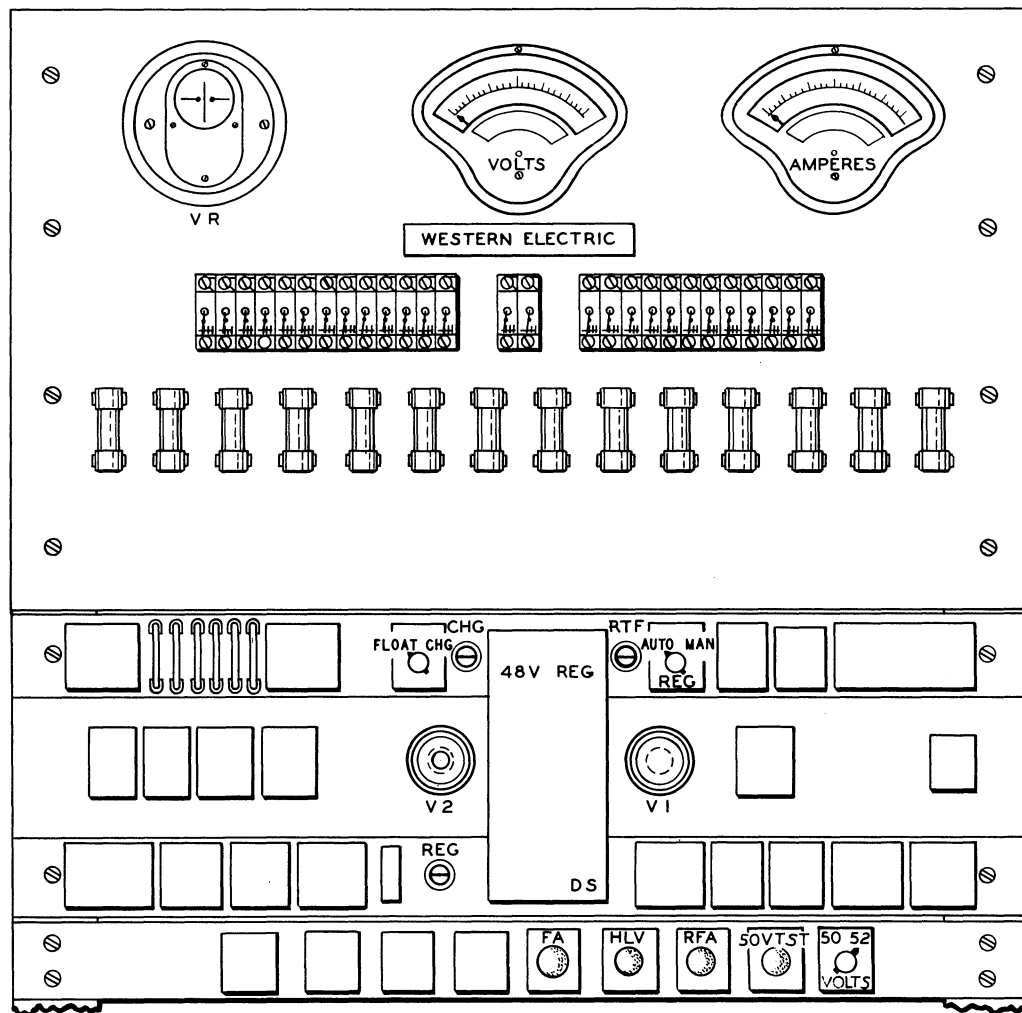
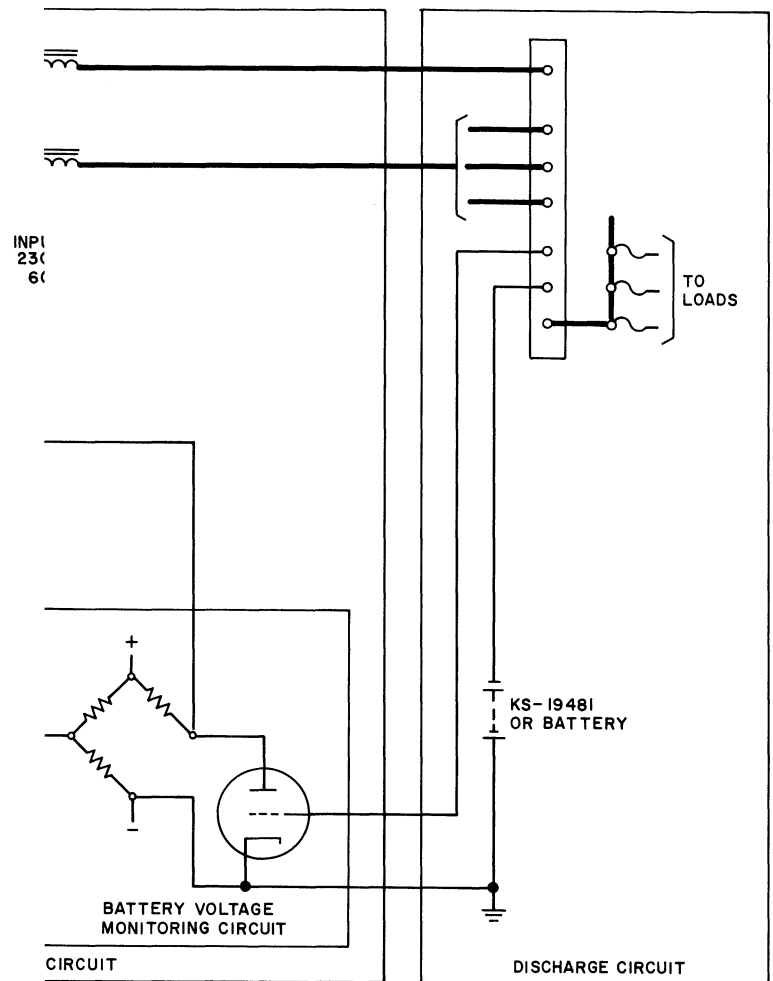

Fig. 2—110A 48-Volt Plant Controls
Fig. 6—Block Schematic of 24-Volt 110B Power Plant
1.06 Keys are provided as a part of the rectifier for manual control of the output. A voltage control unit, consisting of an amplifier and a bridge, is used for automatic control of the rectifier output to maintain the float voltage of the battery. Only one control unit is required for a 24- or a 48-volt plant (Fig. 2, 3, and 4). From one to twelve rectifiers may be used in the 110A 48-volt plant (Fig. 5), and one to seven rectifiers in the 110A 24-volt plant. From one to four rectifiers are usually used in the 110B 24-volt plant (Fig. 6). On constant load plants, rectifiers in excess of those required to supply the load are available to charge the battery. On variable load plant, additional rectifiers will not be normally required, as charging of the battery can be done during light-load periods.